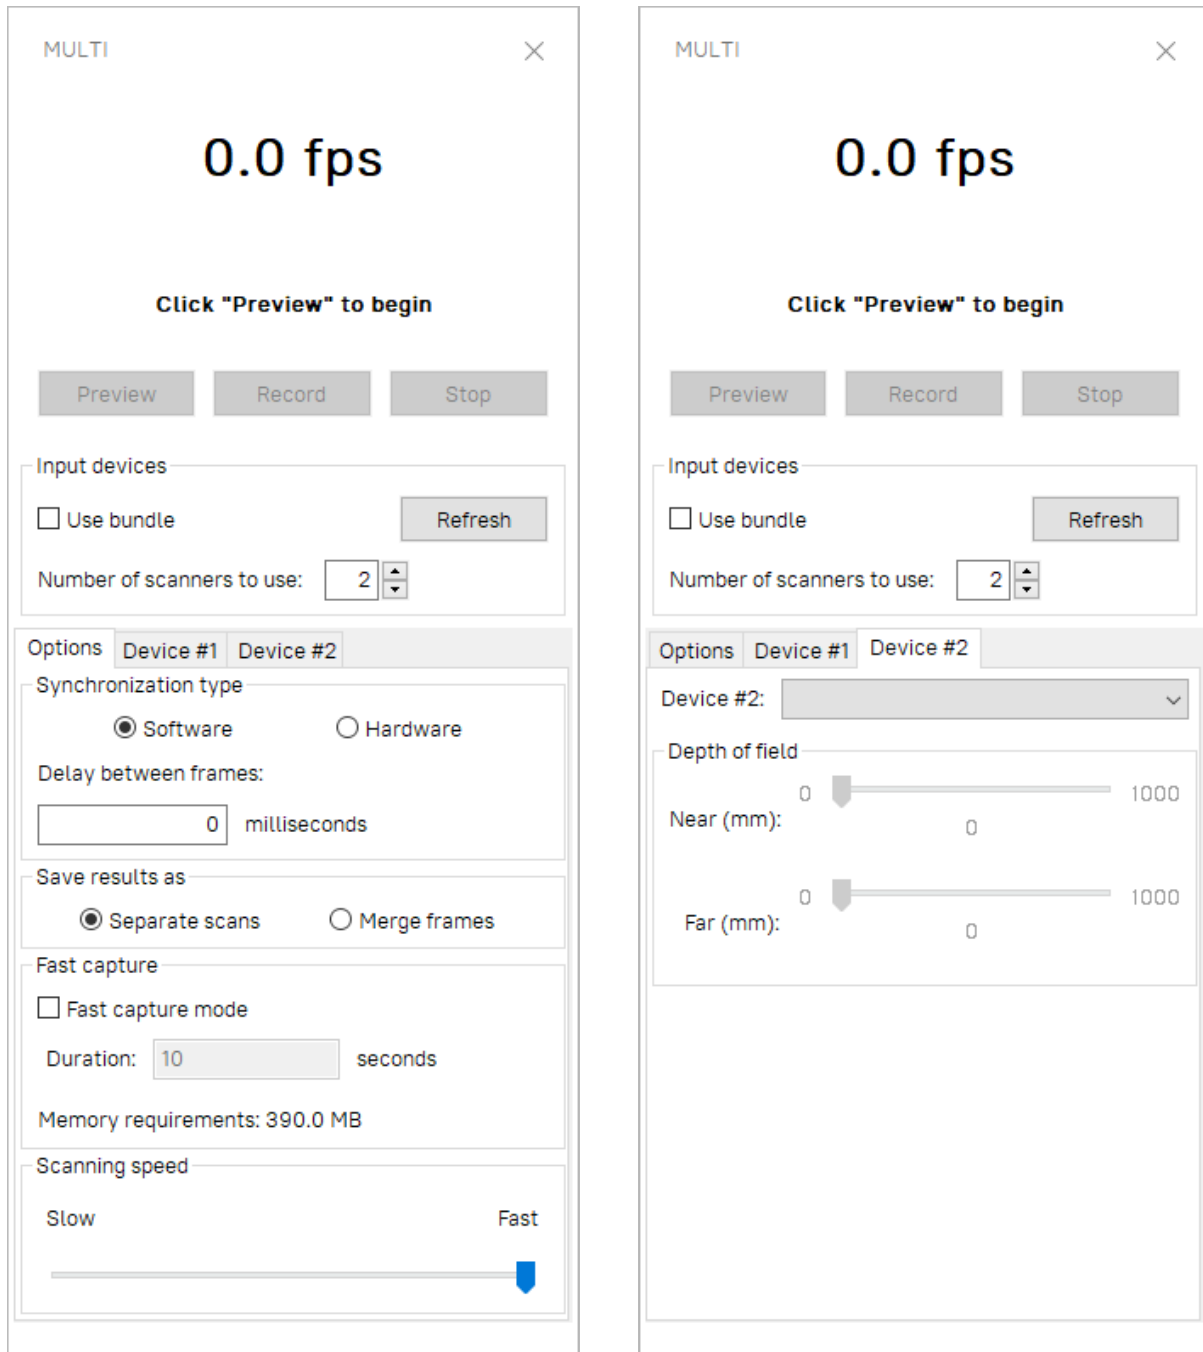

Figure 212: Multicapture panel: *Options* tab on left, *Device* tab on right.
1. Select *File* → *Multicapture (bundle)*. The panel will open (see Figure 212).
Sometimes, limiting the cameras' field of view is necessary (e.g., to cut off extraneous distant objects). Two sliders in the *Depth of field* area set the near and far scanning boundaries. The application sets work-area boundaries for each device independently in the device tabs (see Figure 212, right). By default, the minimum and maximum boundary values for the corresponding device type are set to the recommended range; we encourage you to avoid changing them. However, if you're using Artec L scanners or 3D sensors, it may become necessary. To change these values manually, mark the *Override default depth range* checkbox in the *Scan* tab of the *Settings* dialog and enter the appropriate values in the fields below.